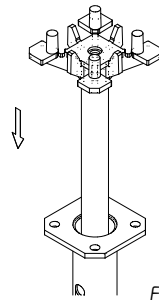
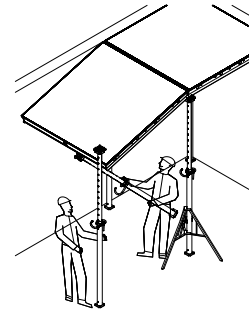

Fig. 14.10
Fig. 14.11
2. The assembly should be continued by installing the other boards according to the prepared plan. The boards should be hung at an angle using the heads (fig. 14.10) of the existing structure and then they should be lifted to the level where the ceiling is installed and propped with the props (fig. 14.11). You can lift boards using the props or mounting rod assembly (A0078005).